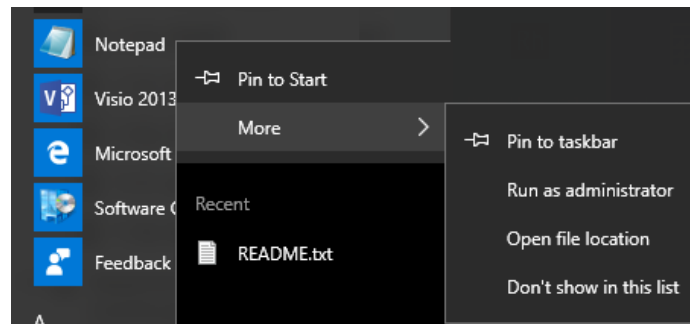

Figure 79: Run Notepad as Administrator
2. Select **More > Run as administrator** (Figure 79).